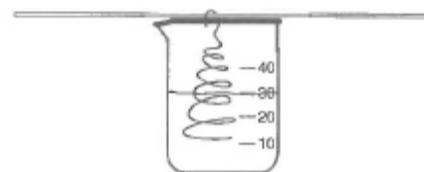

Figure 1.
1. Obtain a clean and dry 50 mL beaker. Place the beaker on the electronic balance and tare (zero) the balance. Using a scoop/spatula carefully add 1.4-1.6 grams of copper (II) chloride to the beaker.
2. Measure and record the exact mass of copper (II) chloride in the beaker.
- Loosely coil the piece of aluminum wire into the shape shown in Figure 1.
- Used the stirring rod to suspend the aluminum wire in the copper (II) chloride solution, as shown in Figure 1. The aluminum wire should not be touching the bottom or sides of the beaker.